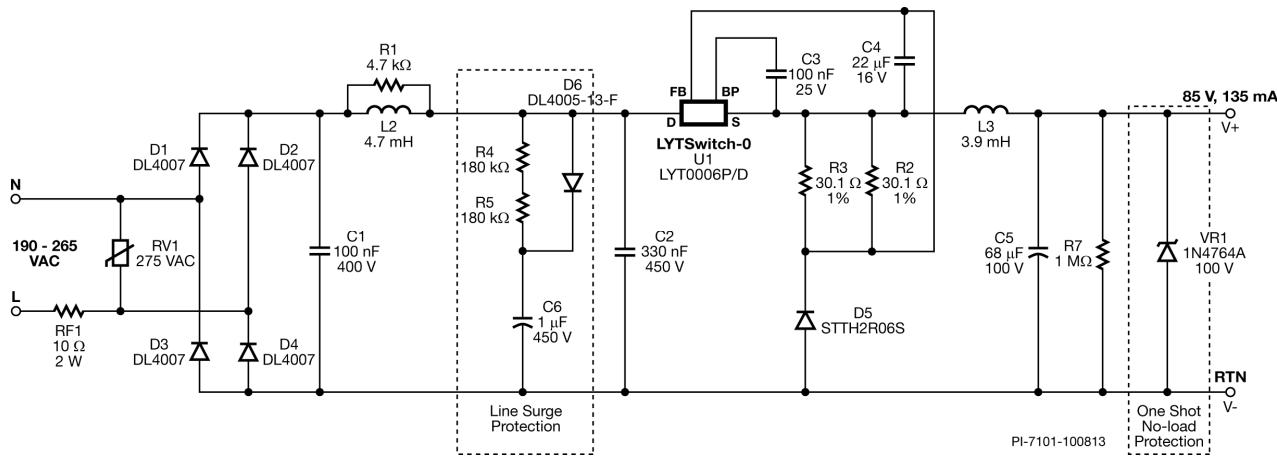

Figure 7 – Schematic.
The power supply shown in Figure 7 uses the LYT0006P (U1) in a high-side buck configuration to deliver a constant 135 mA current at an output voltage of 85 VDC. The power supply is designed for driving LEDs, which should always be driven with a constant current (CC) supply.